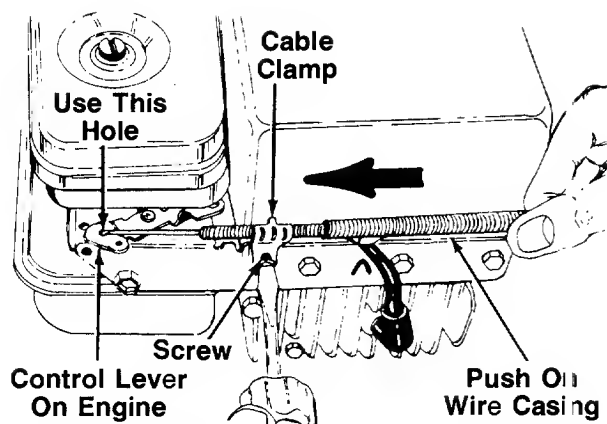

FIGURE 6B.—Models 272R and 282R
2. The throttle control cable is attached to the upper handle. Route the throttle control cable under the lower handle and inside the handle mounting bracket. Hook the "Z" end of the throttle control cable into the arm on the control lever on the engine which has two holes, using the **outside** hole as shown in figure 6B.
3. Remove the screw on the cable clamp on the engine shown in figure 6B. Slip the control casing under the clamp. Replace the screw, but do not tighten (cable must still move freely beneath the clamp).
4. Slide the control lever on the engine as far toward the **outside** of the engine as it will go. Push the wire casing on the throttle control cable toward the control lever on the engine as shown in figure 6B as you tighten the screw on the cable clamp to secure the cable in this position.